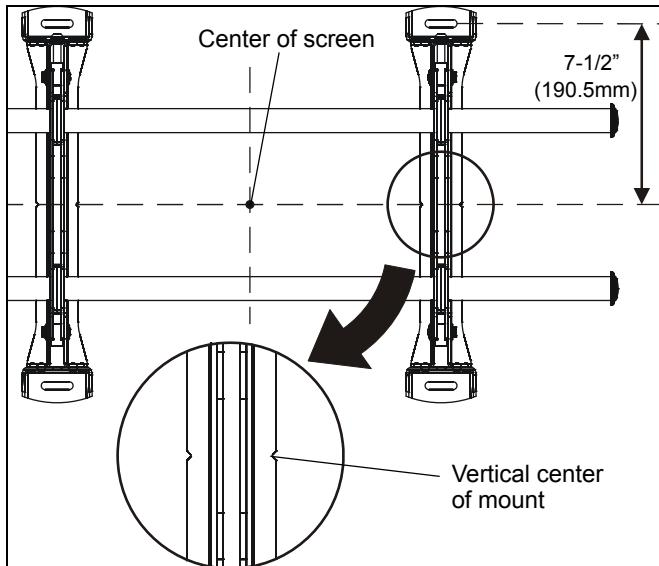

Figure 2
- Line up the notches on mount (R) with center of screen marking to determine vertical center. (See Figure 2)
- Measure up 7-1/2" (190.5mm) from the center point to mark location of the upper mounting slots. (See Figure 2)